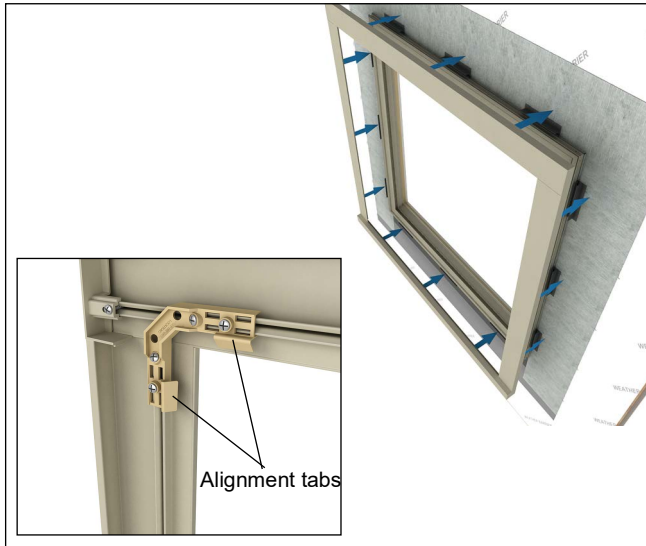

Figure 40
5. Press casing assembly onto connection barbs by lining up all corners with the corner key alignment tabs. Press firmly (20-40 pounds of pressure) around the entire casing assembly until it is seated fully over frame. **Do not use excessive force, mallets, hammers, etc.** See figure 40.